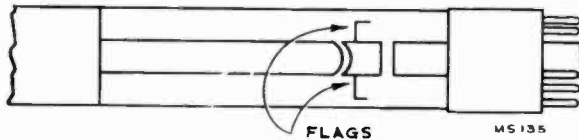

Figure 5—Ion Trap Flags
**INSTALLATION OF KINESCOPE**—The kinescope second anode contact is a recessed metal well in the side of the bulb. The tube must be installed so that this contact is approximately on top. The final orientation of the tube will be determined by the position of the ion trap flags. Looking at the kinescope gun structure, it will be observed that the second cylinder from the base inside the glass neck is provided with two small metal flags. The kinescope must be installed so that when looking down on the chassis, the two flags will be seen as shown in Figure 5.